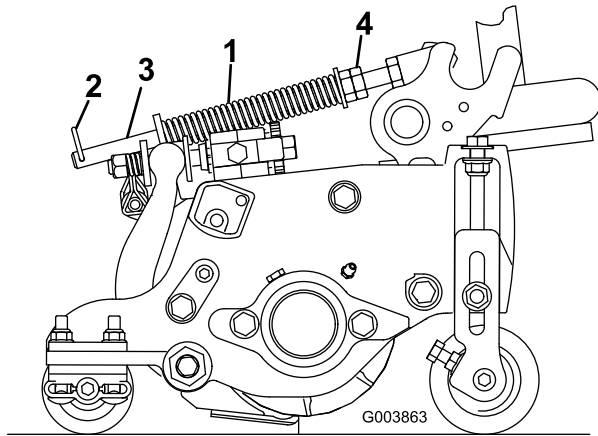

Figure 21
1. Make sure the hairpin cotter is installed in the rear hole in the spring rod (Figure 21).
2. Tighten the hex nuts on the front end of the spring rod until the compressed length of the spring is 6.25 inches (15.9 cm) (Figure 21).